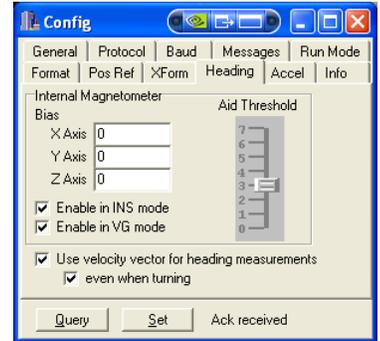

Figure 26. Heading Tab
6.10 Heading - The "Heading" tab is used to adjust the magnetic declination offsets of the internal magnetometer which reflect the current direction of magnetic north when the unit is in the presence of magnetic interference (Figure 26). Under normal operating conditions, magnetic declination is calculated and applied via self-contained tables (International Geomagnetic World Model) based on the current Latitude and Longitude determined by the GPS receiver.